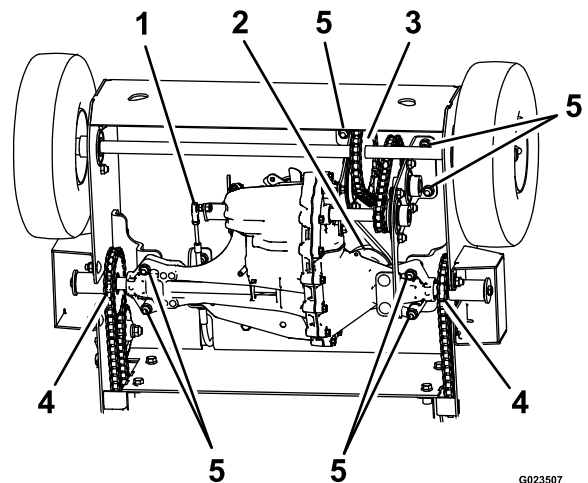

Figure 35
5. Remove the transmission from the machine (Figure 35).